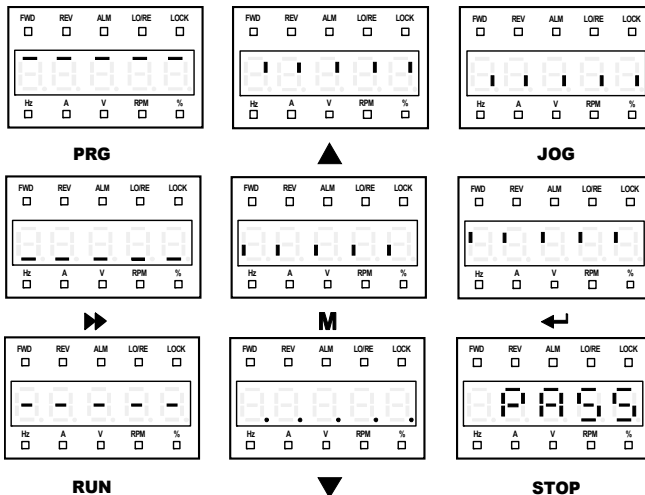

Figure 6-5 Correct correspondence of the keys and the displays
2. Press any key of the panel and observe the LED and the state indicators to detect the corresponding key whether valid. And the correct correspondence is as shown in Figure 6-5. During this process, if there is no press in 4—5 seconds, it will directly jump to the step 4. If the self-check is success, it will jump to the step 3.